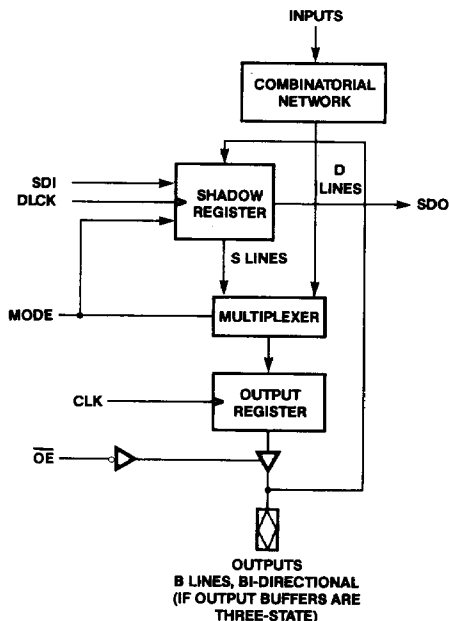

Figure 6. A typical functional block diagram for a diagnostic part
- Data on the output pin of the same bit. This data may be the output of the corresponding bit of the output register if there is no output enable pin and the output is enabled, or the input to that pin if there is an output enable pin and output is disabled. Refer to Figure 6 for some general information on a typical diagnostic functional part with output enable (OE).
The diagnostic register is one part in a series of diagnostic products which follows a new standard for diagnostics. The basic standard is described in Figure 6 and the table on page one. This standard implies that all diagnostic parts in this series are cascadable.